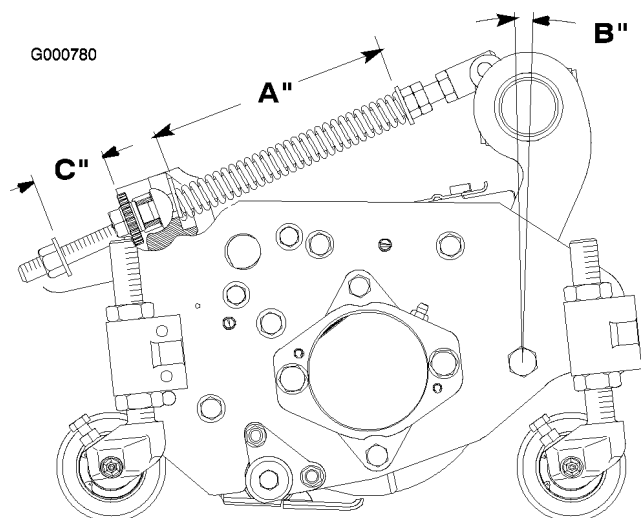

Figure 73
The Turf Compensation Spring (Figure 73), connecting carrier frame to cutting unit, controls the amount of fore-aft rotation available, as well as the amount of ground clearance in transport and turn around.
1. Tighten lock nut on rear of spring rod until the gap (C) between rear of spring bracket and front of washer is 1 in. (25 mm) (Figure 73).
2. Tighten hex nuts on front end of spring rod until the compressed length (A) of spring is 8 in. (203 mm) (Figure 73).
Note: When cutting rough or undulating turf, increase compressed length (A) of spring to 8-1/2 in. (216 mm) and gap (C) between rear of spring bracket and front of washer to 1-1/2 in. (38 mm) (Figure 73).